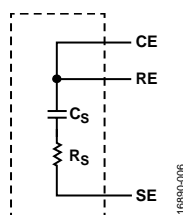

Figure 7. Sensor Configuration for Pulse Test
Using the same hardware configuration as in the Amperometric section, move the jumper on JP6 to Position A. Moving the jumper connects the resistor/capacitor (RC) network shown in Figure 7 to the AD5940 CE0 pin, RE0 pin, and SE0 pin. This RC network models an electrochemical cell.
Figure 7 shows the RC network used for the pulse test. In this example, $C_S = 10 \mu\text{F}$ and $R_S = 6.8 \text{ k}\Omega$.